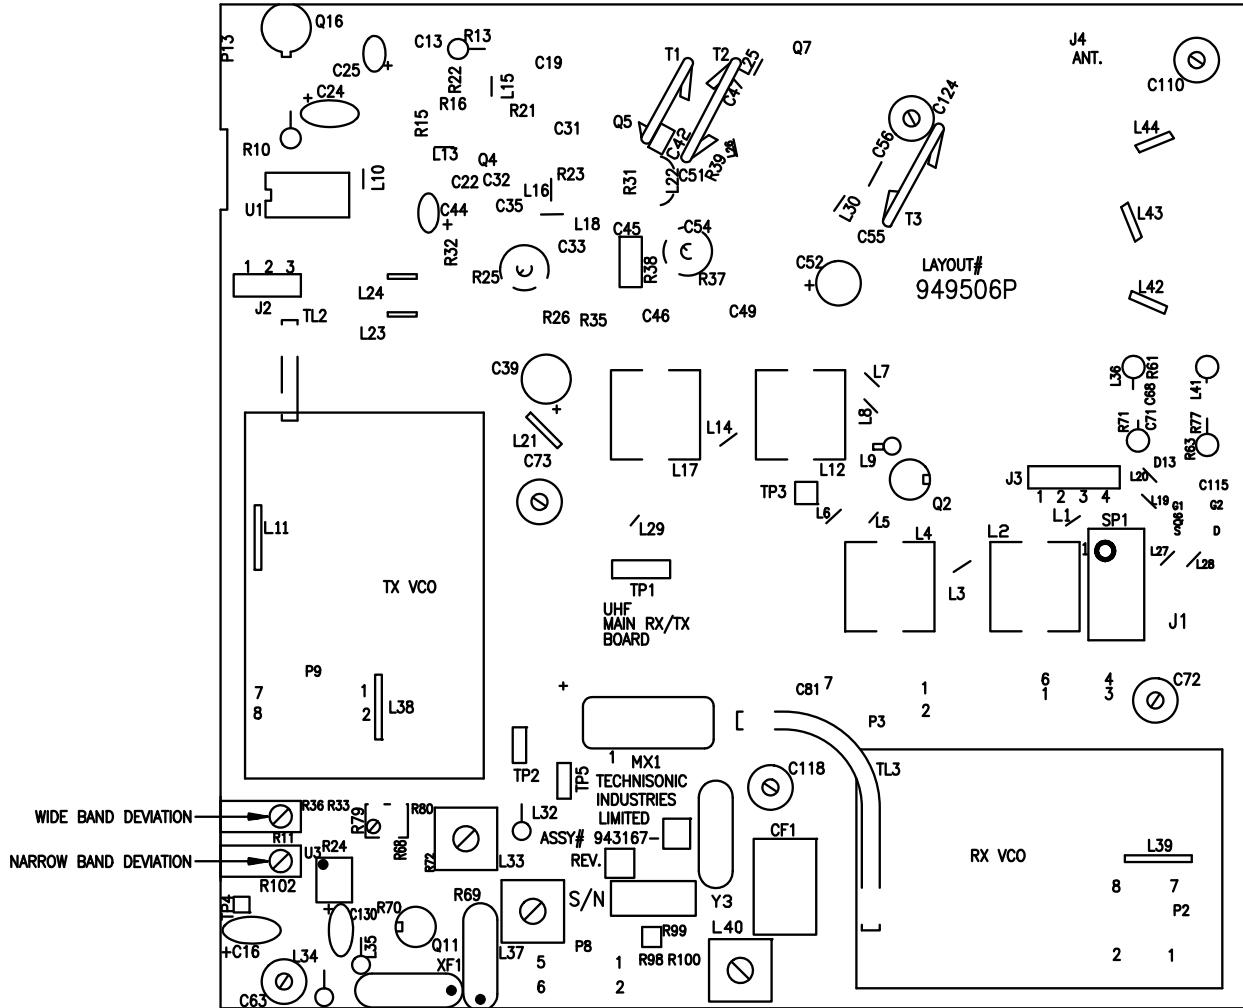

FIGURE 3-5 Deviation Adjustment Potentiometer Location
1. Remove and retain the eight (8) No. 4-40 screws securing the top cover of the transceiver to its chassis. You should now have access to the Main Rx/Tx Module.
4. Adjust the deviation limit potentiometer, R11 on the main Rx/Tx module (see Figure 3-5) to produce a ± 4.2 kHz deviation (with no CTCSS or DPL codes enabled).
6. Adjust the deviation limit potentiometer, R102 on the main Rx/Tx module (see Figure 3-5) to produce a ± 2.1 kHz deviation (with no CTCSS or DPL codes enabled).
8. Place top cover on transceiver chassis and secure all eight (8) screws.